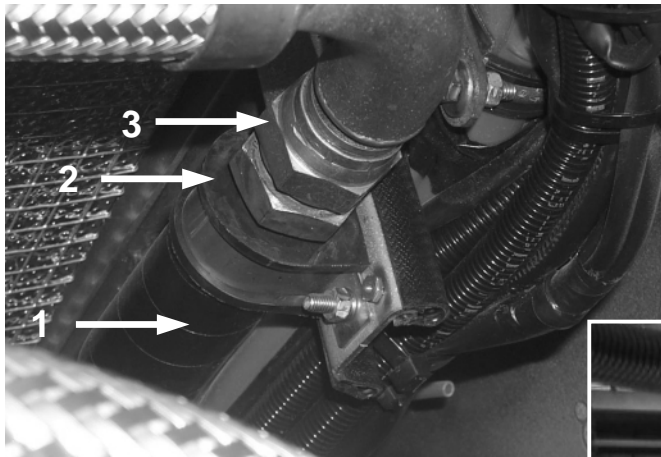

Figure 7: New factory installation
***NOTE:** Do not consider this part of the procedure if your coach has already been fitted with the copper discharge line means of support shown in Figures 7 or 8.*